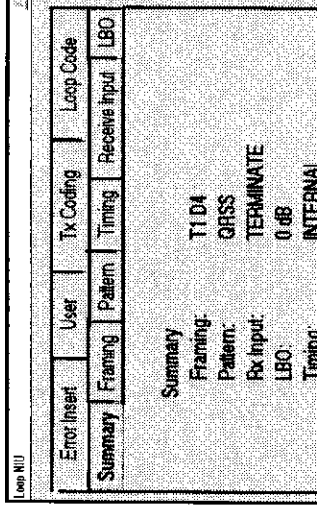

Figure 2-10. Property Tabs Behind Summary Sheet
4. To check or change the configuration, press **Setup**, which replaces the main screen with the setup screen (Figure 2-10). The setup screen starts with the **Summary** tab with property tabs set behind it for each of the parameters you may want to change from the default test setting.